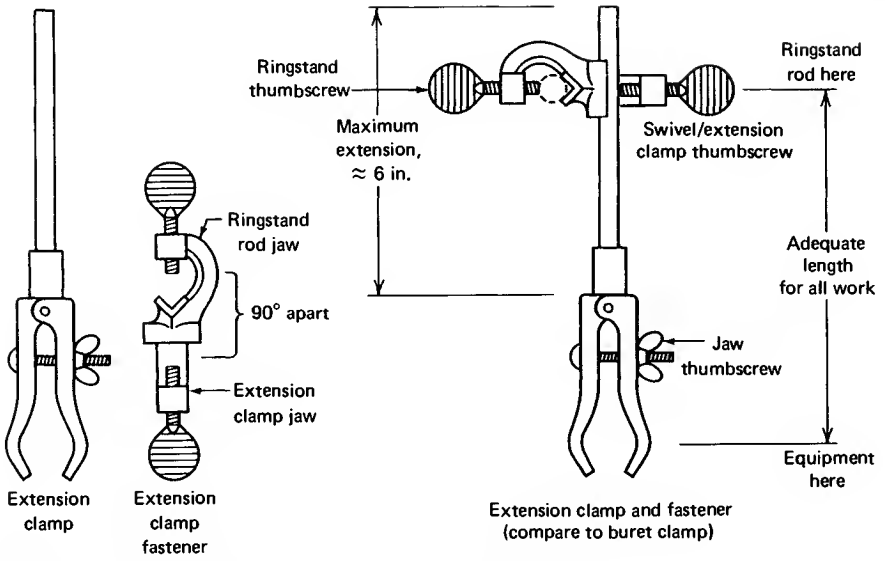

Fig. 66 The extension clamp and clamp fastener.
2. **The simple extension clamp and clamp fastener** (Fig. 66). This two-piece beast is the second best clamp going. It is much longer (approx. 12 in.), so you can easily get to complex setups. By loosening the **clamp holder thumbscrew**, the clamp can be pulled out, or pushed back, or rotated to any angle. By loosening the **ringstand thumbscrew**, the clamp, along with the clamp holder, can move up and down.